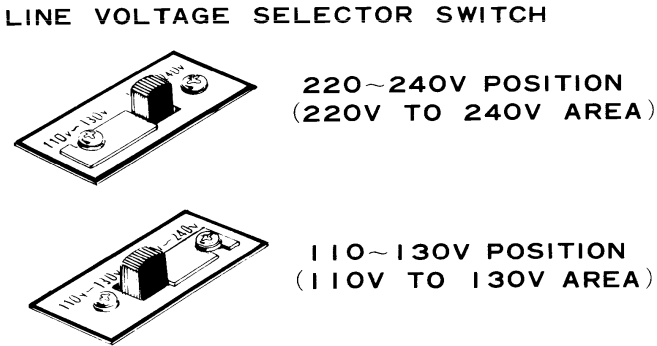

Fig. 7
*Fig. 7 shows the location of the line voltage selector switch and lock plate. Remove the screw in the lock plate with a philips screwdriver to free the lock plate. *Set the selector switch to the proper line voltage marking, hold the switch in position with the lock plate, and tighten the screw.